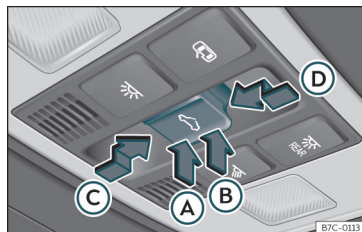

Fig. 117 On the interior roof lining: sunroof button.
The  button  Fig. 117 has two levels. The first level switches the sunroof to the tilted position, opening or closing it fully or partial- »
- *Sunroof*: within approximately 5 seconds of having activated the roll-back function, press the ⇄ button >>> Fig. 117 to the second level in the direction of arrow >>> Fig. 117 (D) until the sunroof closes completely.